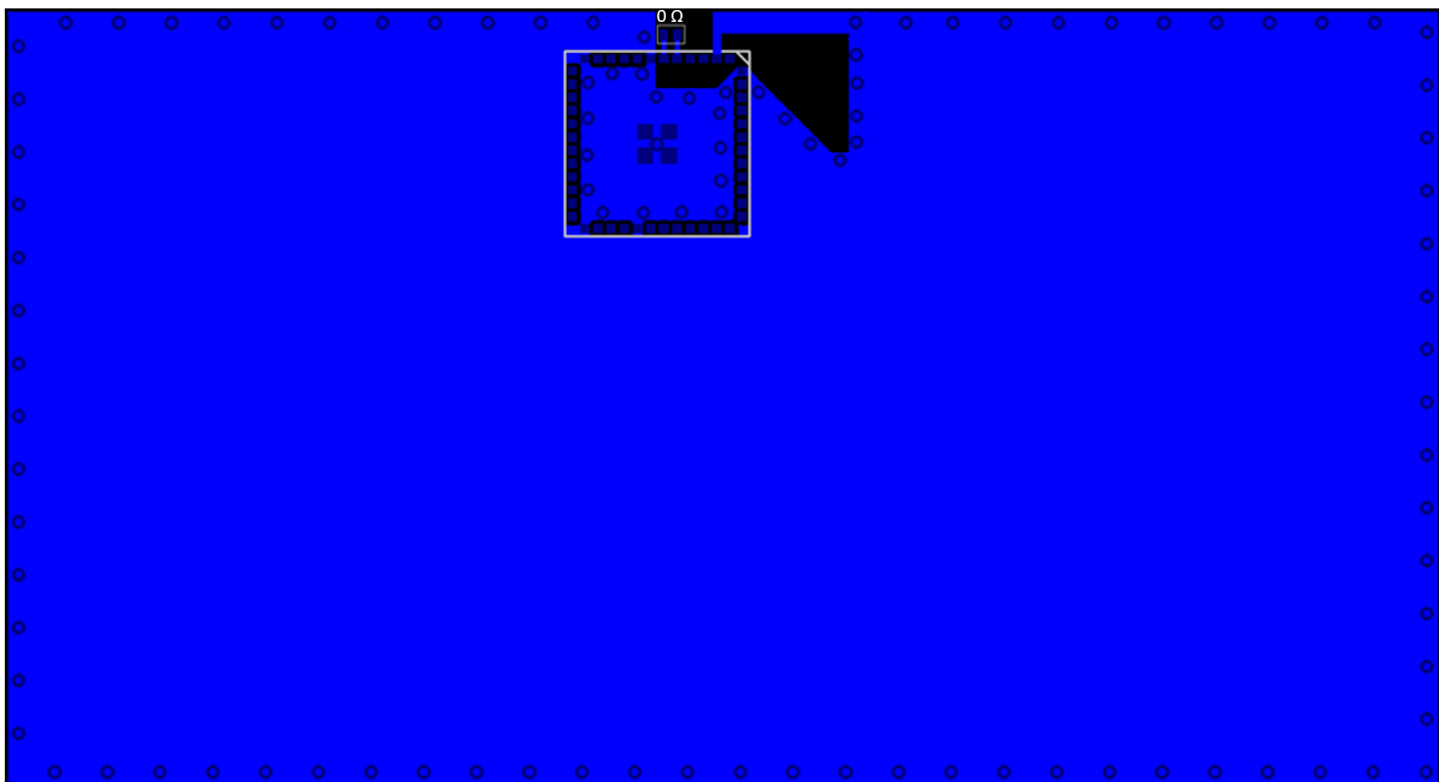

Figure 7.1. Recommended Layout for MGM240S (Integral Antenna)
- Place the module 1.50 mm from the edge of the copper “keep-in” area at the middle of the long edge of the application PCB, as illustrated in Figure 7.1 on page 39.